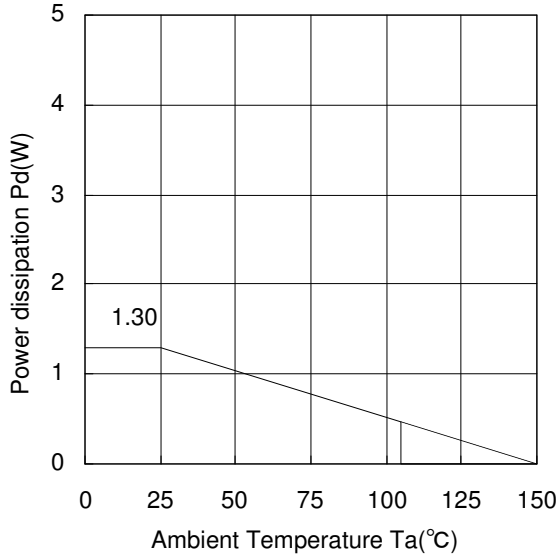
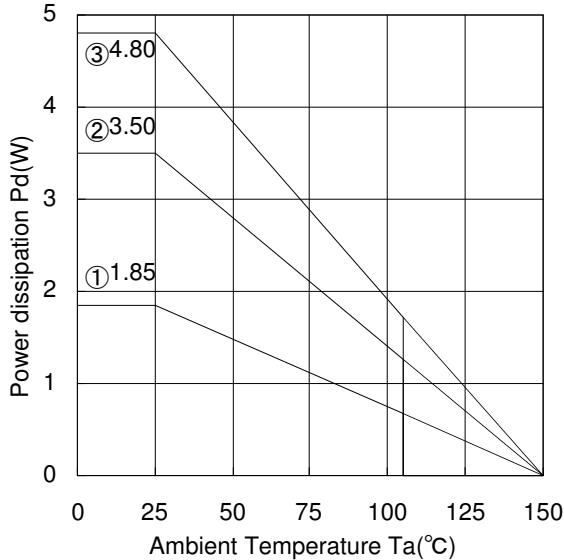
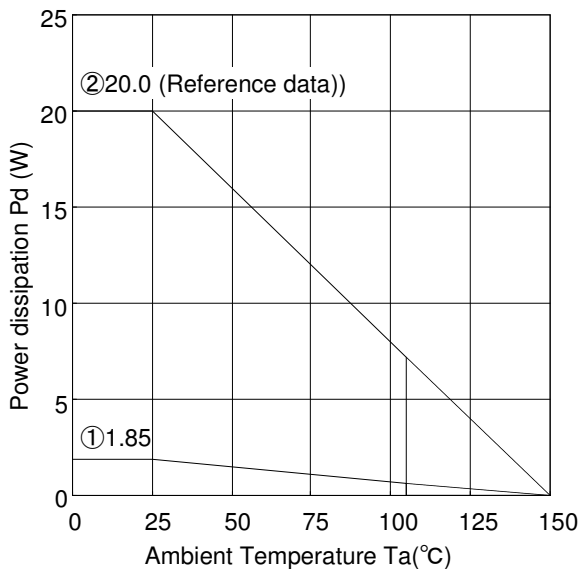

Figure 19.
Figure 20.
Figure 21.
When operating at temperature more than  $T_a=25^{\circ}\text{C}$ , please refer to the power dissipation characteristic curve shown in Figure 19 to Figure 21.
Figure 19 to Figure 21 show the acceptable power dissipation characteristic curves of TO252-5 package and TO220CP-V5 package. Even when the ambient temperature ( $T_a$ ) is at normal temperature ( $25^{\circ}\text{C}$ ), the chip junction temperature ( $T_j$ ) may be quite high so please operate the IC at temperatures less than the acceptable power dissipation.
The calculation method for power consumption  $P_c(W)$  is as follows :(Figure 20③ and Figure 21)
$$I_O \leq \frac{2.496 - 10 \times I_b}{5} \quad \left[ \begin{array}{l} \text{Figure 20③: } \theta_{ja}=26.0^{\circ}\text{C/W} \rightarrow -38.4\text{mW}/^{\circ}\text{C} \\ 25^{\circ}\text{C}=4.80\text{W} \rightarrow 85^{\circ}\text{C}=2.496\text{W} \end{array} \right]$$
$$I_O \leq \frac{10.4 - 25 \times I_b}{20} \quad \left[ \begin{array}{l} \text{Figure 21 (Aluminium heat dissipation board) } \theta_{ja}=6.3^{\circ}\text{C/W} \rightarrow -160\text{mW}/^{\circ}\text{C} \\ 25^{\circ}\text{C}=20\text{W} \rightarrow 85^{\circ}\text{C}=10.4\text{W} \end{array} \right]$$